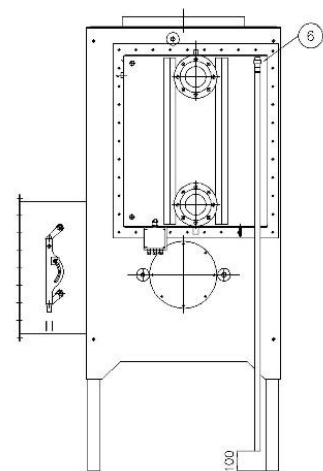

figure 8 Location of pressure relief valve
11. Connect the safety devices (maximal thermostat, differential pressure switch, end switch on bypass valve) as shown in figure 8.